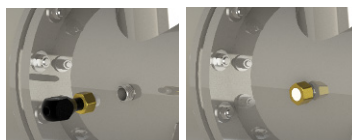

Figure 6: LE6 Sensor installation (left), LE5 Glow Plug installation (right)
Step 6: (Applicable only if you have a UV sensor). Carefully remove the sensor from its packaging and insert the sensor into the UV sensor port (**Figure 6**). There are two sensor ports on the chamber. It is recommended to install on the bottom port if the chamber is installed horizontally to avoid air bubbles in front of the sensor. The sensor can only go in one way. Ensure that the flat portion of the UV sensor matches up with the half metal lip on the sensor port (flat portion should face the lamp connection end) (see Figure 6) Ensure that the sensor is fully seated in the sensor port and then tighten (turning clockwise) the sensor nut. **PLEASE NOTE:** DO NOT over tighten the nut as this could damage the Teflon sensor body. Plug the male connector into the sensor port located on the bottom of the control panel.